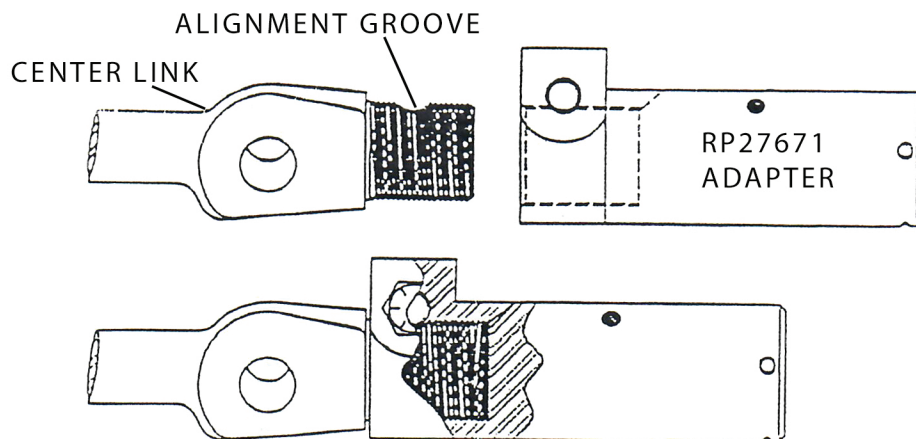

FIG.1
2. Unscrew just until the bolt can line up with the alignment groove in the center link (**FIG.1**).